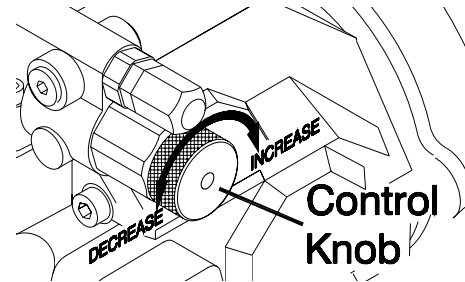

Figure 2. Hydraulic Pressure Adjustment
FIGURE 2. HYDRAULIC PRESSURE ADJUSTMENT.....	10
15. **HYDRAULIC PRESSURE CONTROL-** Controls the hydraulic pressure available to the hydraulic drive system. Turn the adjustment knob clockwise to increase pressure, counterclockwise to decrease pressure. (See Figure 2.)